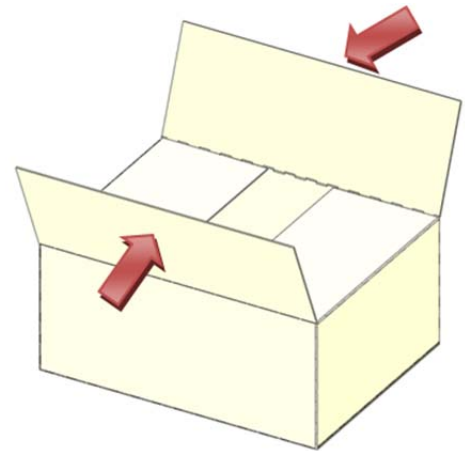

Figure-28
- ii. Fold Major Flaps In As Shown In **Figure-28**